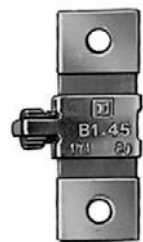

Figure 1
For a controller ambient temperature other than 40°C (104°F) trip current can be calculated by applying a correction factor from the curve in Figure 1. The approximate trip current for a particular ambient temperature is the product of (1) the multiplier M corresponding to the temperature and (2) the 40°C trip current rating.
Example 2: Determine the trip current for the motor and controller in Example 1, except the controller is in a 30°C (86°F) ambient temperature. From the curve in Figure 1 the multiplier M is 1.1 at 30°C. Approximate Trip Current is $16.0 \times 1.25 \times 1.1 = 22$ Amperes
Always be certain the correct thermal units are installed in the starter before operating the motor. Thermal units should always be mounted so that their type designation can be read from the front of the starter (see Figure 1). Melting alloy thermal units should be mounted so that the tooth of the pawl assembly can engage the teeth of the ratchet wheel when the reset button is pushed.